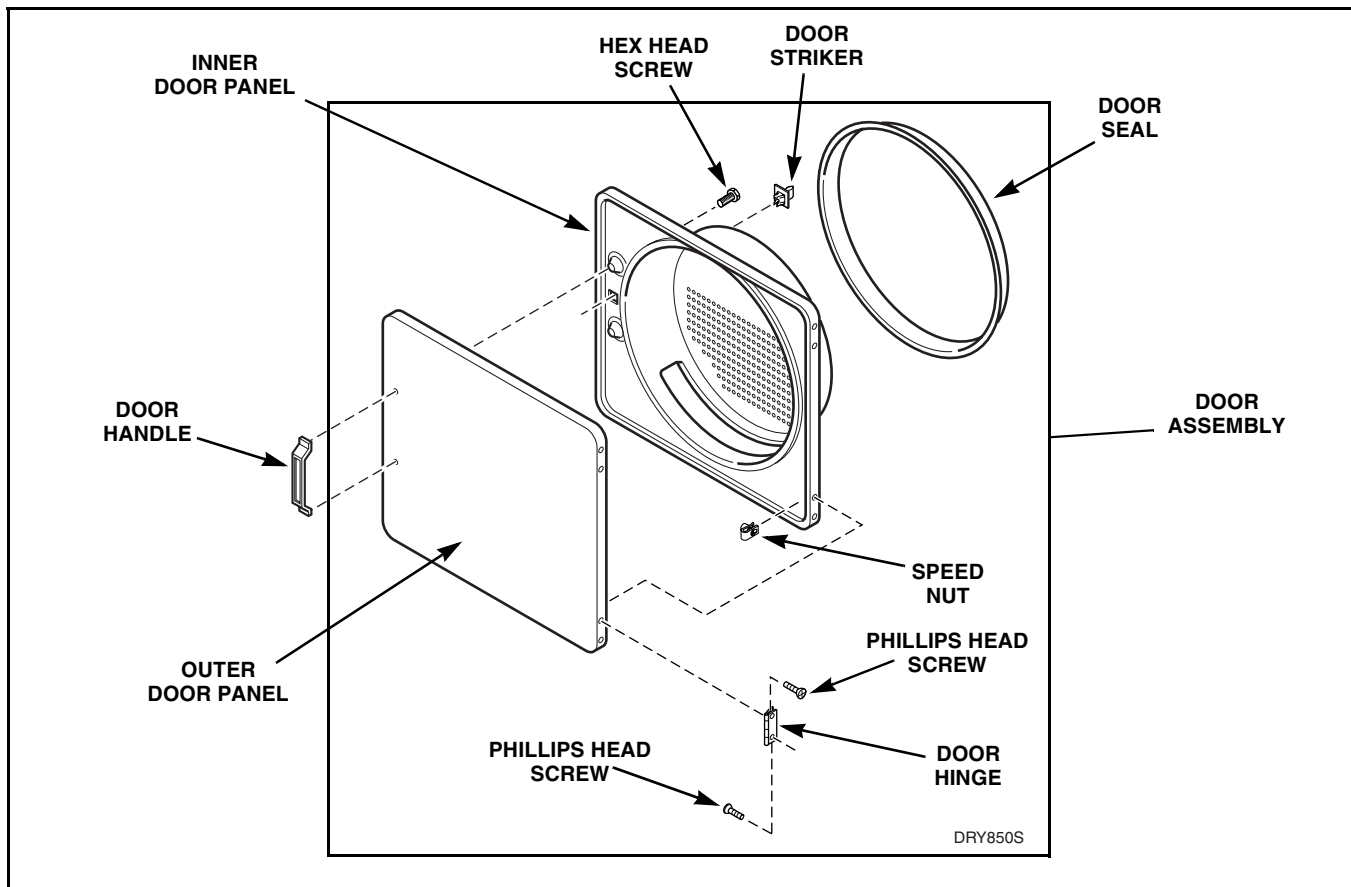

Figure 17
- Remove screws holding handle to door and separate panels. Refer to *Figure 17*.
Refer to *Figure 17*.